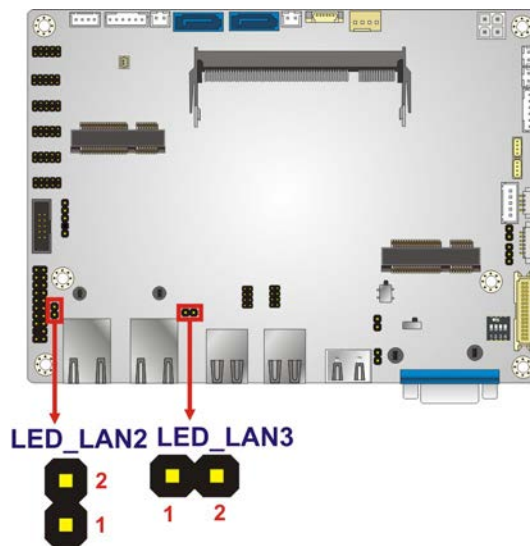

Figure 3-13: LAN LED Connectors Location
**CN Location:** See Figure 3-13